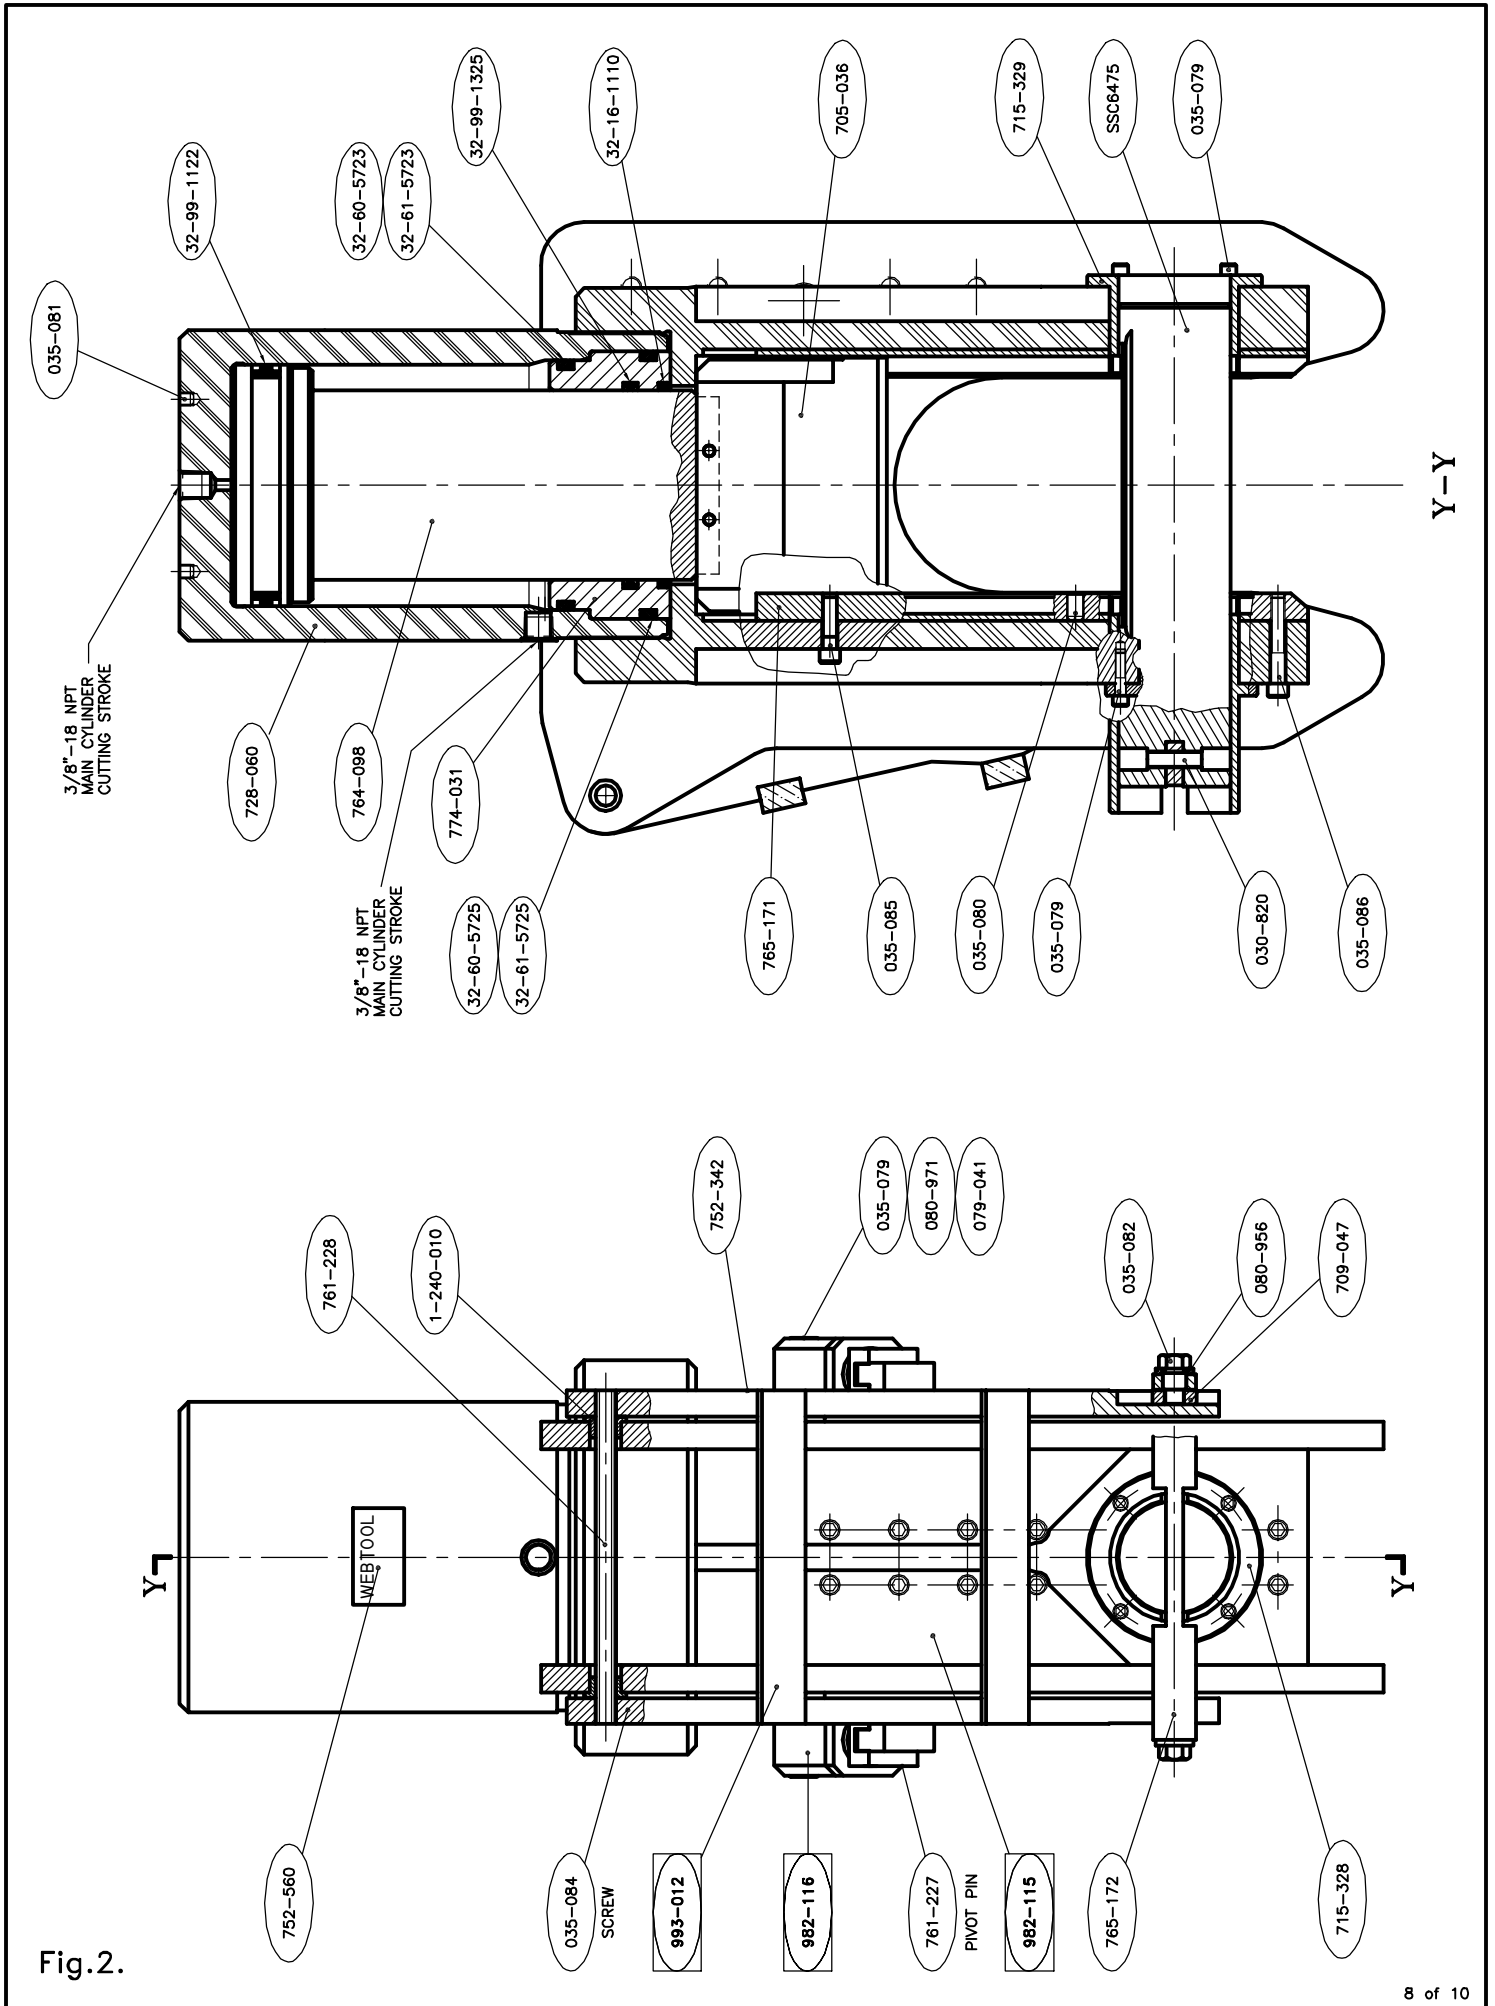

Fig.2.
**1.2** Two hydraulic supplies are required, ported as shown in Figs. 2 & 3. The maximum working pressures are shown in *Table 1* and pressure limiting valves should be fitted into the sources to limit the pressures to these levels.
PARTS LIST - Refer to Fig. 2.